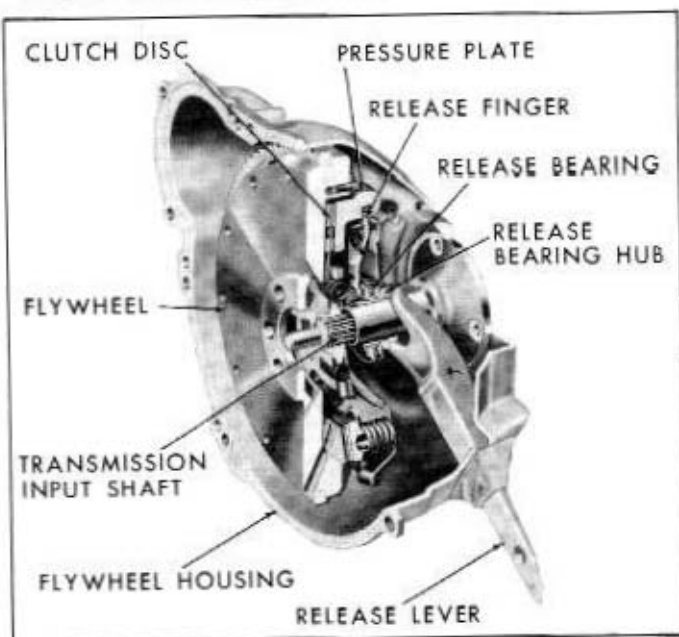

Fig. 7C-1—Clutch—(60C-3201)
A single dry-disc and pressure plate type clutch is used. Refer to figure 7C-1. The clutch disc is splined to the transmission input shaft and the pressure plate and cover assembly is bolted to the engine flywheel. The transfer of engine torque to the transmission is accomplished by the clutch disc when clamped between the pressure plate and the flywheel.
1. To check pedal assist spring tension, measure the distance between the inside radius of the spring hook and the front face of the link. Refer to figure 7C-2. This distance should be 1-3/16 inch. Turn the nut on the retainer to obtain proper pedal assist.
2. Measure the total travel of the pedal. See figure 7C-3. If the total travel is not within 6"-6 1/2", move the pedal bumper and bracket (figure 7C-2) up or down as necessary. Always check and adjust total travel before checking free travel.